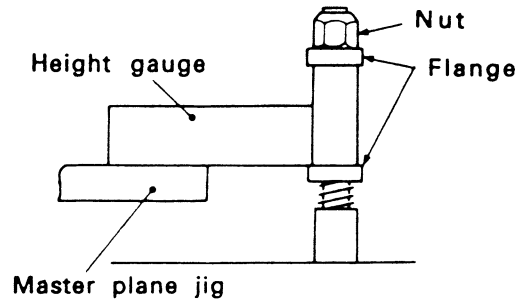

Fig.4 Guide pole height adjustment
- b) Set the height gauge on the master plane jig as shown in Fig.4.